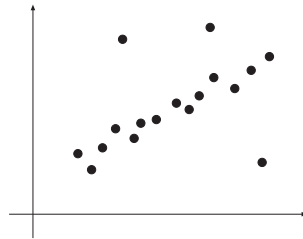

Figure 1: The points represent the measured data. There is noise and some points erroneously fall far off (they are *outliers*).
1. Suppose you have a set of points $\{\mathbf{x}_1, \mathbf{x}_2, \dots, \mathbf{x}_n\}$ that were sampled from some real-world data. For example, these could be points coming from some sensor, collected in a physical experiment, statistical data or data coming from a 3D scanner. You are a scientist that wants to perform principal component analysis on the data you collected and to find a line/hyperplane that approximates your points. However, it is known that the dataset contains *noise* and *outliers* – some points might be far off (see Figure 1). How do errors in the samples affect the result of the PCA? (Hint: outliers will confuse/divert the PCA. Explain why, based on the quadratic expression that PCA minimizes.)